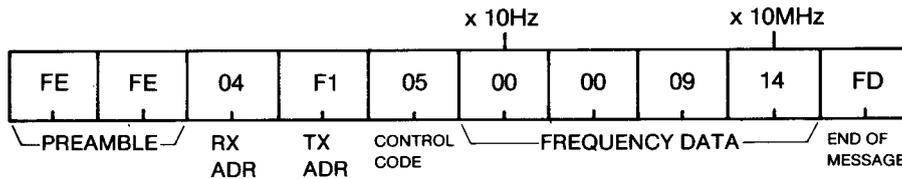
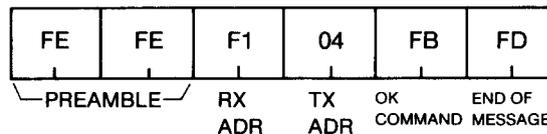

Fig. 18
Fig. 19
- (2) When the controller sends the packet in Fig. 18, the IC-735 returns the packet shown in Fig. 19.